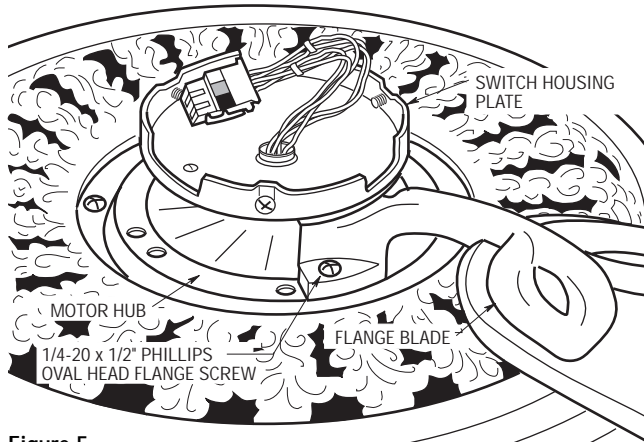

Figure 5
- 9. Loosely attach one blade assembly to the motor hub using two 1/4-20 x 1/2" Phillips oval head flange screws (Figure 5). Make sure the screws are NOT tightened. Repeat this procedure for the other four blade assemblies.